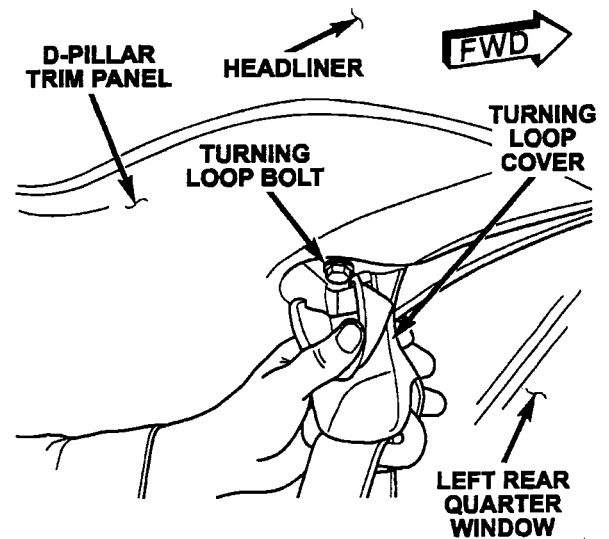

Figure 1
4. Open the seat belt turning loop cover and remove the third row left seat belt turning loop upper bolt (Figure 1).